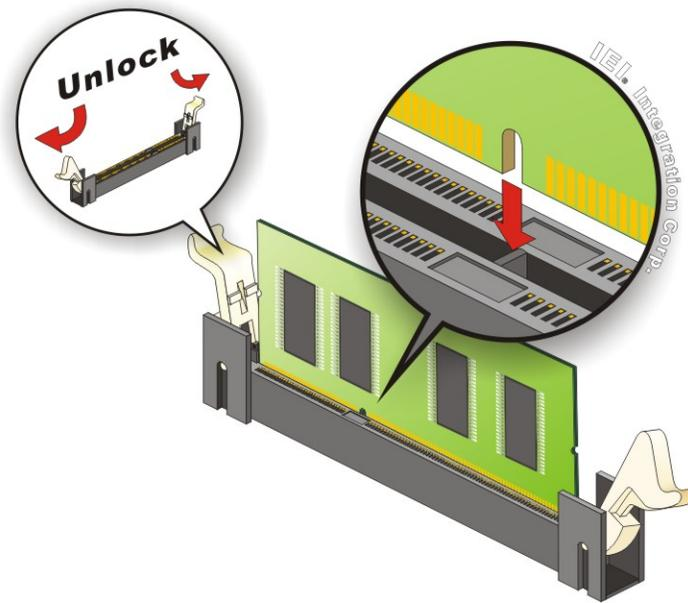

Figure 6-4: SO-DIMM Installation
- Step 6:** Align the new SO-DIMM with the socket. The SO-DIMM must be oriented in such a way that the notch in the middle of the SO-DIMM must be aligned with the plastic bridge in the socket (**Figure 6-4**).
- Step 7:** Press the SO-DIMM down until the arms of the SO-DIMM socket clip into place and secure the SO-DIMM in the socket (**Figure 6-4**).